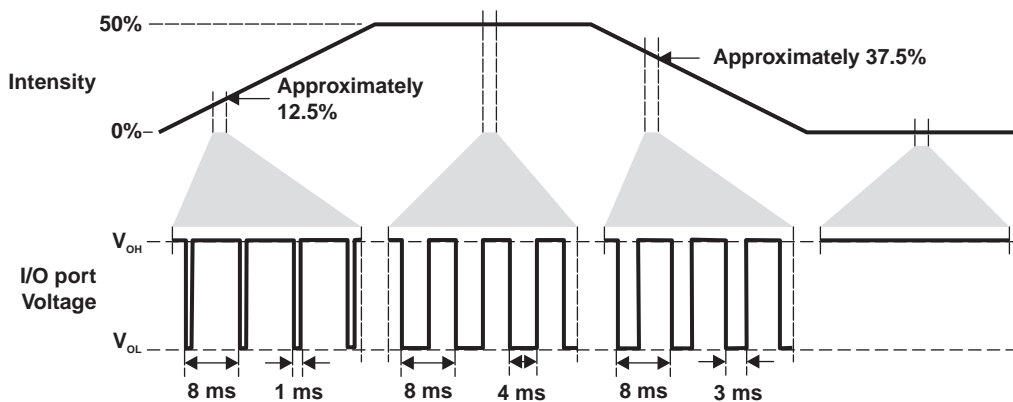

**Figure 20. LED Pattern Sections Per Bank**
Each BANK or PWM has a default value of 4 (4b0100), which translates to a time of 256 ms. The largest value for each BANK or PWM is 15 (4b1111), which translates to a time of 16320 ms (see Figure 20 and Table 5).
**Table 5. Intensity Parameters (see Figure 20)**
The Maximum Intensity register has a default value of 15 (1111), which translates to 100% brightness (see Figure 20 and Table 5).
The Fade-ON Time register (register 0x03) defines the time from the fully-OFF state to the fully-ON state for the LED per region A in Figure 20. The first four bits (C7–C4) in this register set the fade-ON time for BANK1, and the next four bits (C3–C0) set the fade-ON time for BANK0. The data for each bank is a binary number between 0 and 15. For BANK1, the MSB is bit C7, while the least significant bit (LSB) is bit C4. For BANK0, the MSB is bit C3 while the LSB is bit C0. See Table 7 for more information.
The Fully-ON Time register (register 4) defines the time spent at maximum intensity between the fade-ON state and fade-OFF state for the LED per region B in Figure 20. The first four bits (C7–C4) in this register set the fully-ON time for BANK1, and the next four bits (C3–C0) set the fully-ON time for BANK0. The data for each bank is a binary number between 0 and 15. For BANK1, the MSB is bit C7, while the LSB is bit C4. For BANK0, the most significant bit (MSB) is bit C3, while the LSB is bit C0.